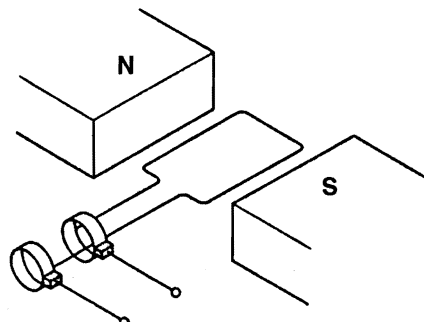
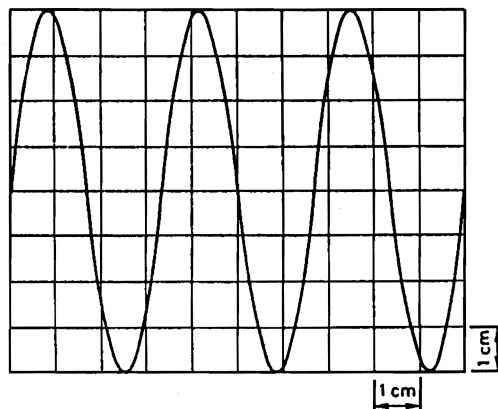

Fig. 5.1
Fig. 5.2
- 62 The coil of the simple a.c. generator shown in Fig. 5.1 is wound on a rectangular wooden former and it rotates between the flat pole-pieces of a permanent magnet. Fig. 5.2 shows the trace obtained when the generator is connected to the input terminals of an oscilloscope.